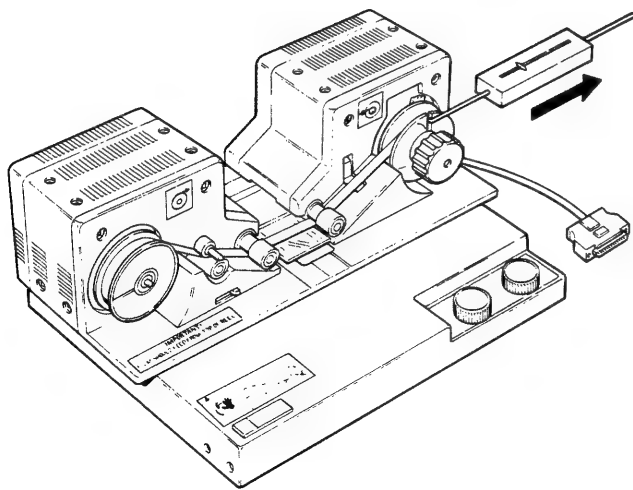

Figure 3-4A
7. Turn the Manual Scan Control until the film slot in the outer reel flange is at top dead-center (Figure 3-4A).